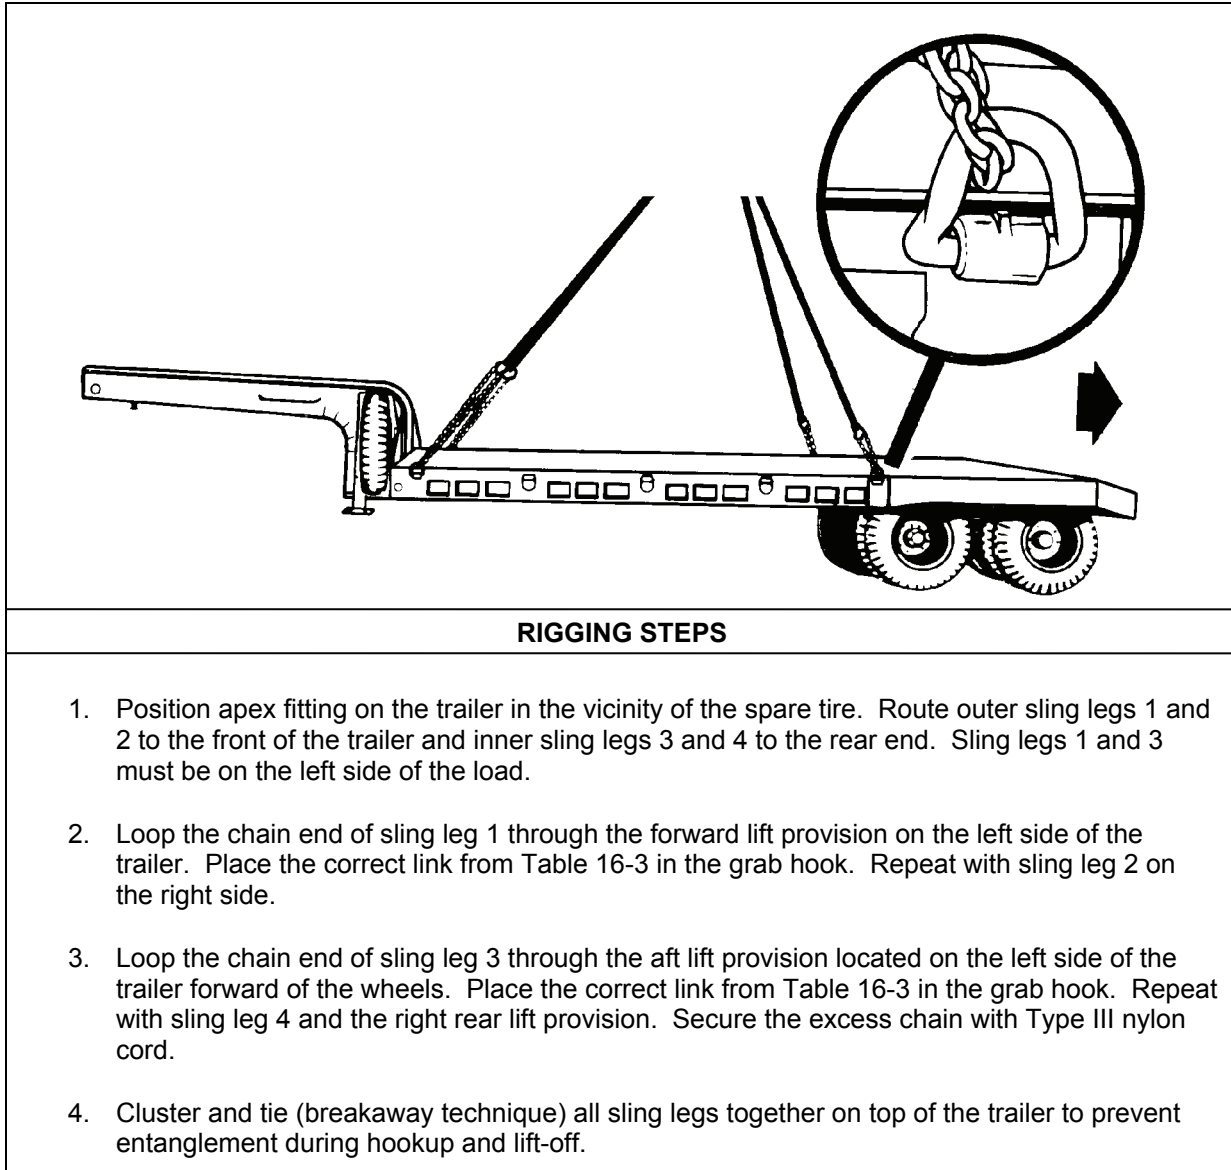

Figure 16-3. M172A1 Semitrailer, Lowbed
- **Rigging.** Rig the load according to the steps in Figure 16-3.